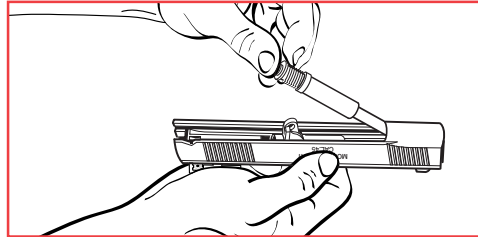

Figure 33-2
3. Remove recoil spring housing from the rear of the slide. (Fig. 33-2)